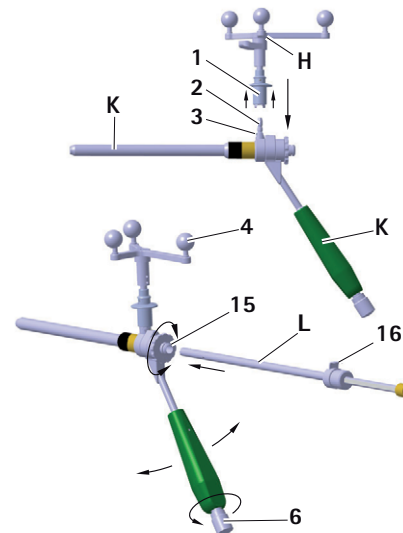

Fig. 12 Mounting the Aesculap star unit onto the S4C guide sleeve; Inserting the S4C inner drill sleeve
- ▶ To ensure that the camera has an unrestricted view of the reflective marker spheres, loosen knob 6 on the S4C handle of the S4C guide sleeve K and rotate Aesculap star unit H to the desired position, see Fig. 12.
- ▶ The inner drill sleeve engages on the inner sleeve and can still be rotated, see Fig. 12.